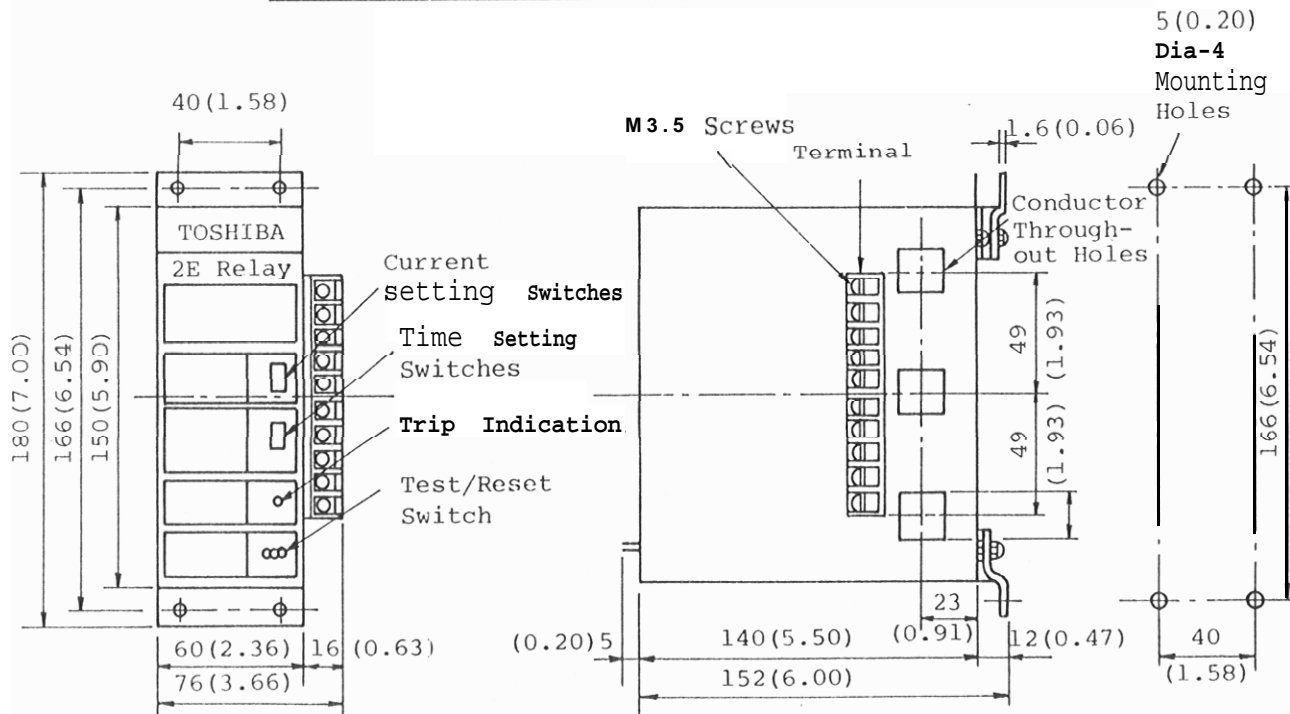

Fig. 4 Surface mount type 2E Relay
- (4) The 2E Relay has phase unbalance detecting characteristics. Figure 4 shows how the current's unbalanced trip point depends upon the relay's current setting and the unbalanced current rate.
The 2E relay will be shipped with mounting feet loose. Before installation, attach the mounting feet to the relay as shown Fig. 4. The below shown mounting feet and hardware will be shipped together with the relay as standard accessory.